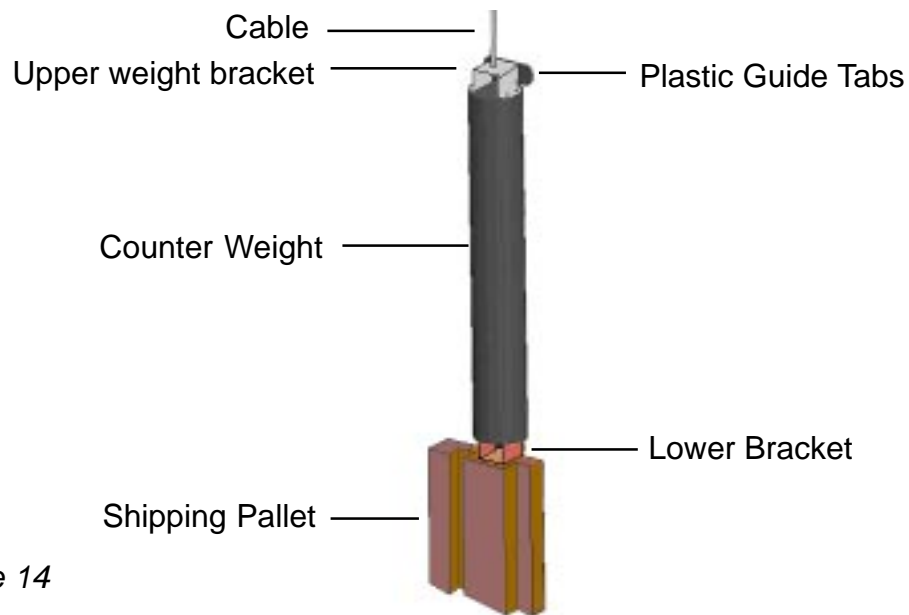
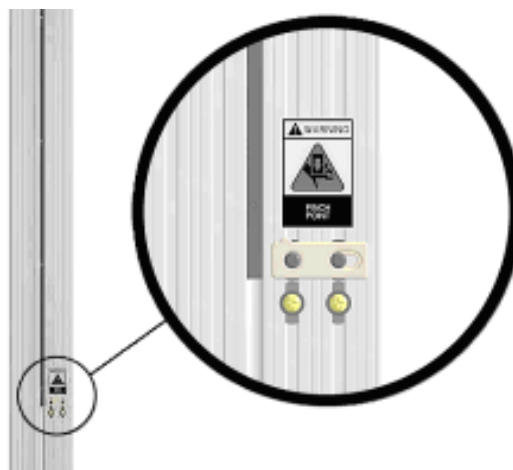

Figure 14
Figure 15
- 19 Straddle the wooden weight pallet and lift the counter weight to a position resting on the 2x4 block. See Figure 14.
- 20 Rotate the plastic guide tabs of the bottom weight bracket into the slots within the tower rear cavity. See Figure 14.
- 21 Remove the upper weight bracket from the tower slots and attach the counter weight to the bracket with (4) #10-32 x ½ screws and lockwashers (use Loctite 222 or equiv.) See Figure 14.
- 22 Press the plastic tabs of the upper weight bracket into the slots within the tower rear cavity. The weight should now be secured by all (4) plastic tabs.
- 24 Ensure the lower plastic stop is secured in its proper position at the end of the gear rack on the front face of the tower. See Figure 15.